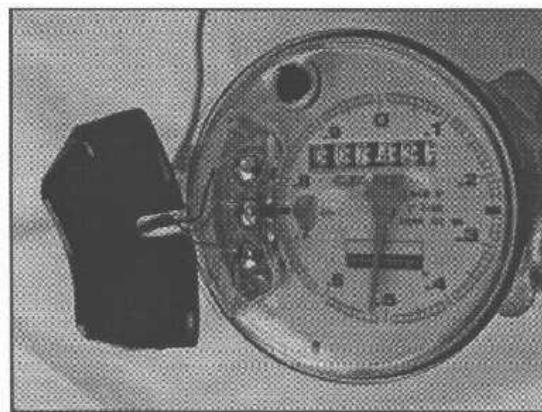

Figure 2-5. Covering the Terminal Screws
- 7 Align the cable with the notch in the terminal screw cover and snap the cover onto the encoder register (Figure 2-5).